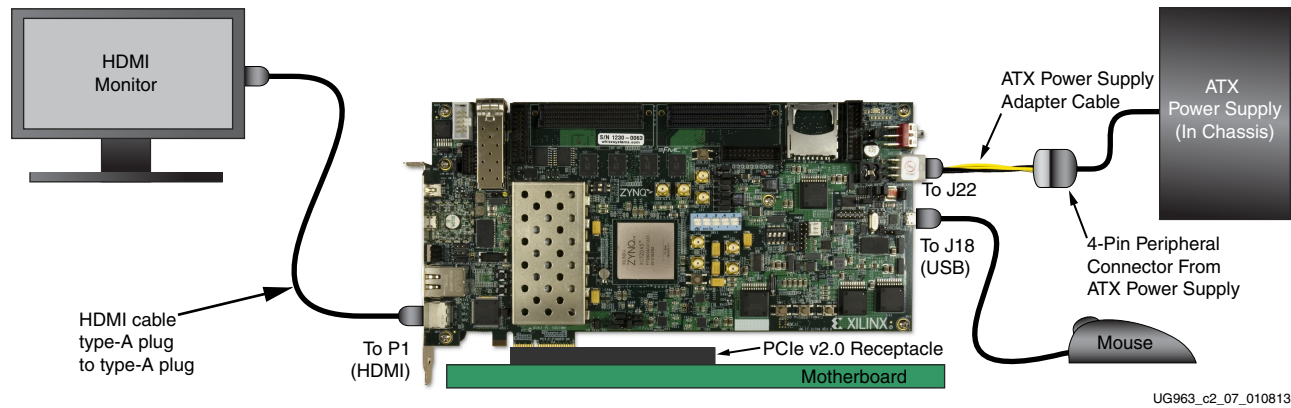

Figure 2-7: **ZC706 Board TRD Setup in Host Computer**
6. Connect the ATX power supply to the ZC706 board using the ATX power supply adapter cable as shown in Figure 2-7: